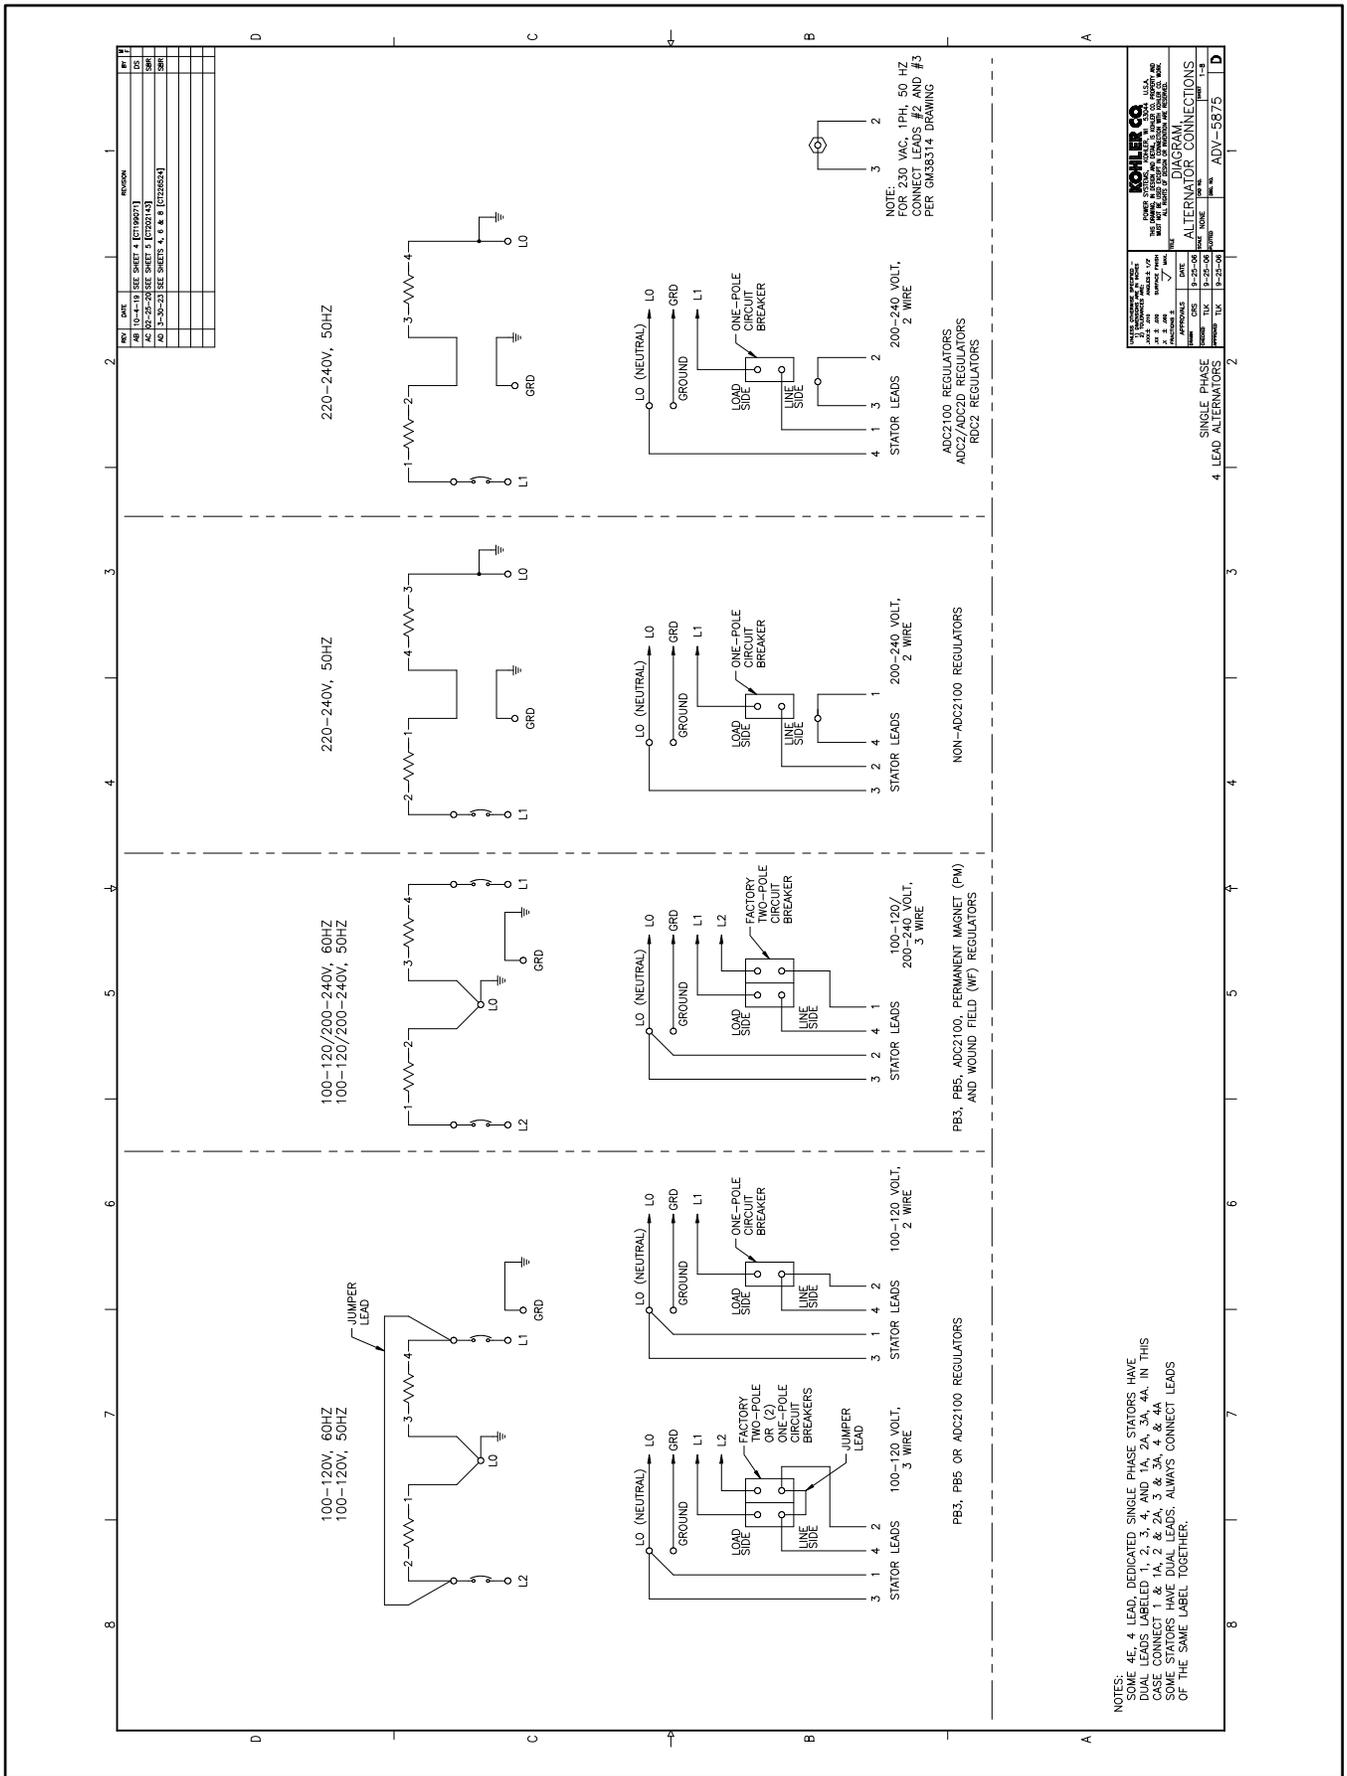
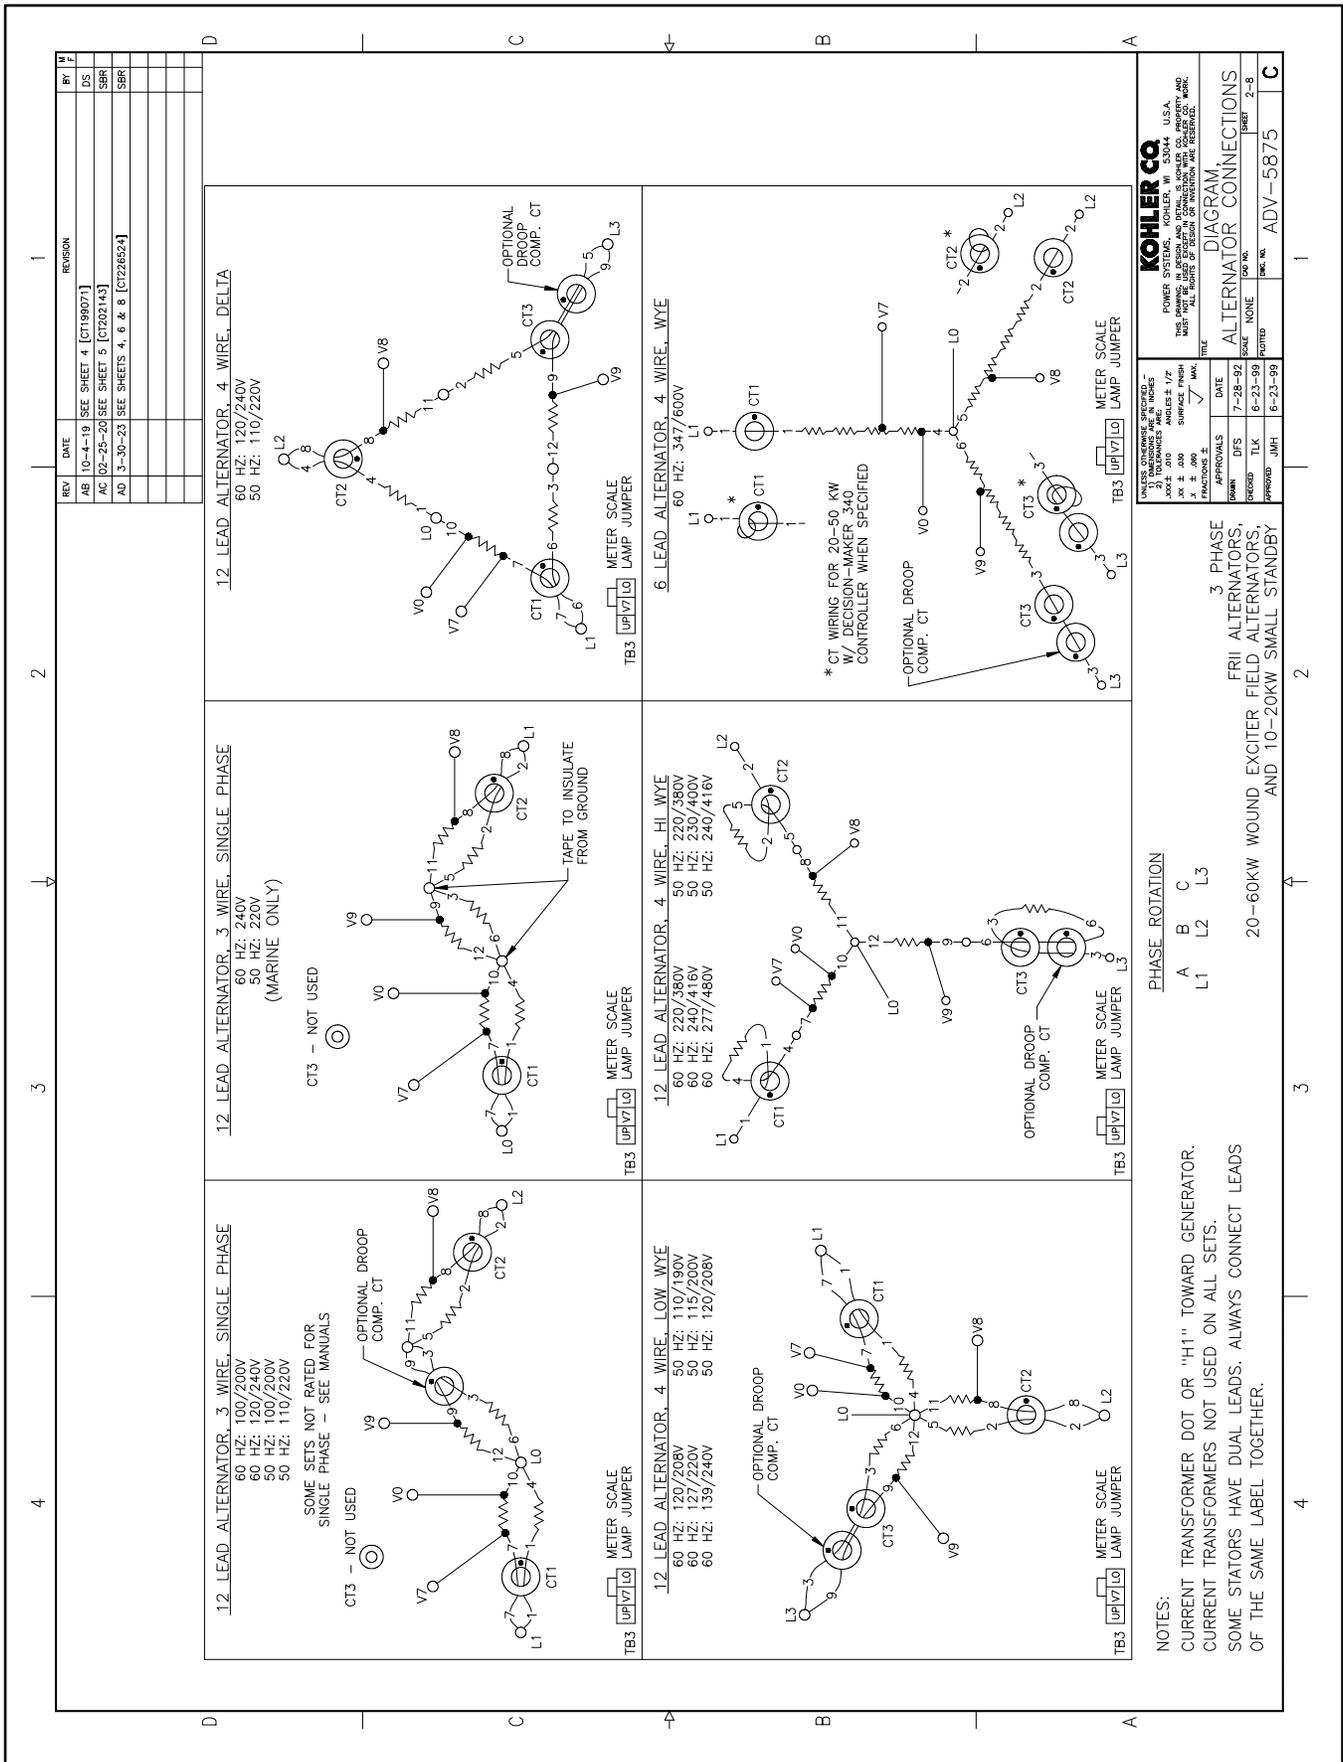

Figure 56 20-150 kW Permanent Magnet Single-Phase Alternators, ADV-5875AD-3
Figure 57 20-300 kW Permanent Magnet Alternators, ADV-5875AD-3
3. Use Figure 56, Figure 57, Figure 58, or Figure 59 to determine the generator set voltage configuration. Note the original voltage and reconnect as needed. Route leads through current transformers (CTs) and connect them according to the diagram for the desired phase and voltage.